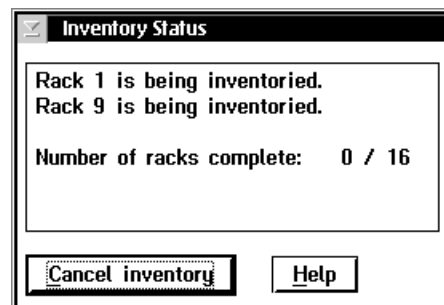

Figure 105. Inventory Status Pop-Up Window (Dual Active Accessor systems)
**Note:** If the Dual Active Accessors Feature is installed, information is displayed for both accessors. See Figure 105.